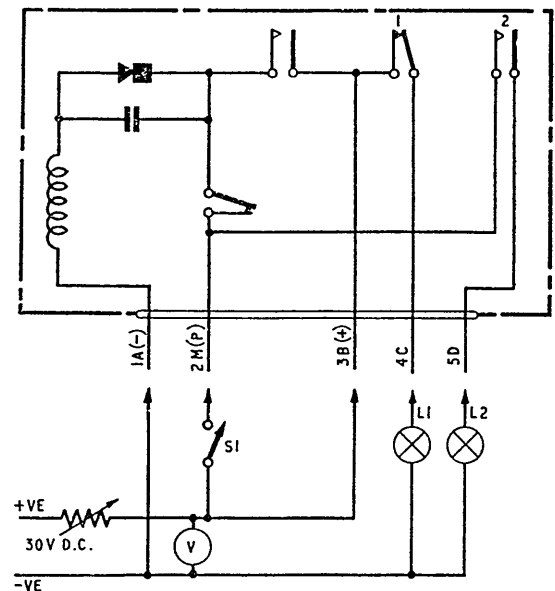

Fig. 1. Switch, Type D8443, circuit diagram and test circuit
1. This time delay switch has two pairs of circuit contacts, the circuit diagram (fig. 1) shows the switch internal wiring and the associated test circuit. The total motor run and circuit contact timing is detailed in para. 3.